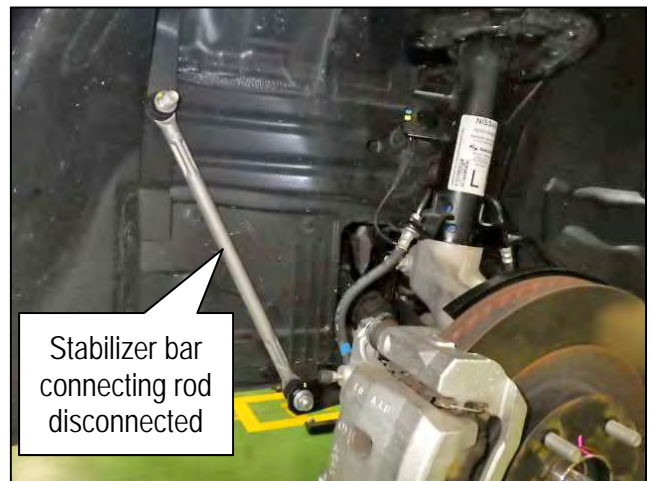

Figure 4
8. Separate the stabilizer bar connecting rod from the strut bracket, as shown in Figure 4.